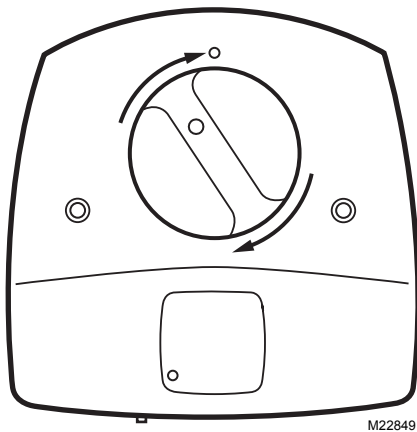

Fig. 5. Snap lamp handle into place.
- 8. Rotate the lamp handle clockwise until it snaps into place with the light indicator aligned with the raised button on the unit cover. See Fig. 5.